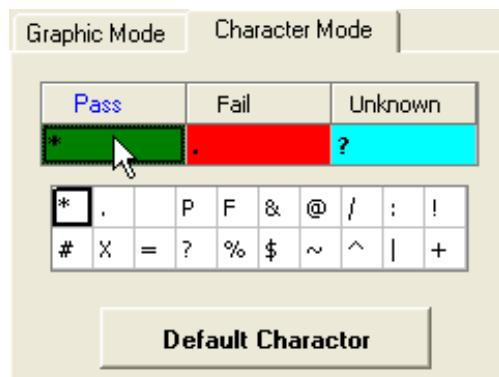

Figure 11-2 Change the Characters Setting (1)
- (1) Press the Pass character as Figure 11-2.